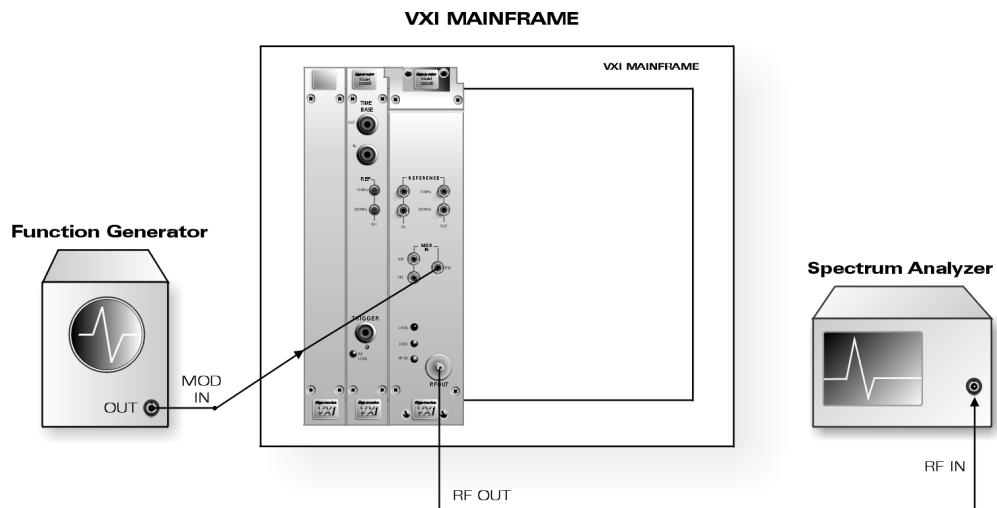

Figure 4-6: Pulse Modulation On/Off Ratio Test
1. Connect the equipment as shown in Figure 4-6.